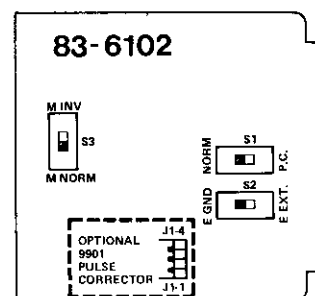

figure 6. 6102 switch option locations
3.05 If precision pulse correction is required, Tellabs 9901 Pulse Corrector subassembly fits into a 4-pin receptacle on the 6102's printed circuit board. The 9901's plastic retainer fits into a hole on the board near the front panel (see figure 6). Properly mounted, the subassembly will not obstruct insertion into the mounting shelf.
3.07 All options on the 6102 module are selected via three slide switches located as shown in figure 6. These switches must be set as directed below before the module is placed into service.